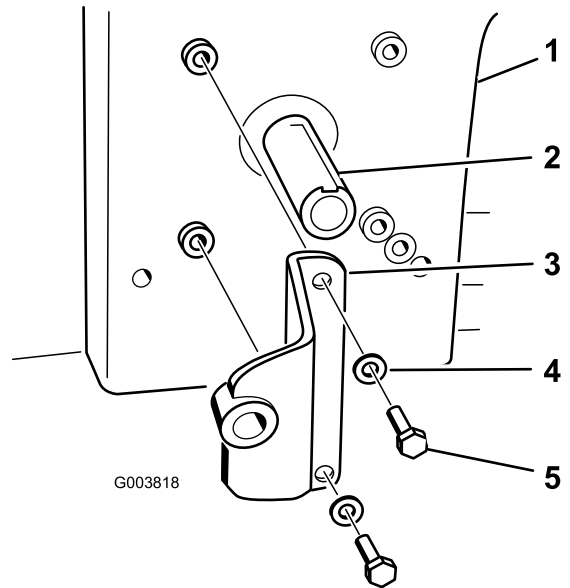

Figure 19
4. Install the pump bracket to the engine with 2 bolts (5/16 x 3/4 inch) and 2 washers (3/8 inch). Refer to Figure 19 for the correct position to install the pump bracket.